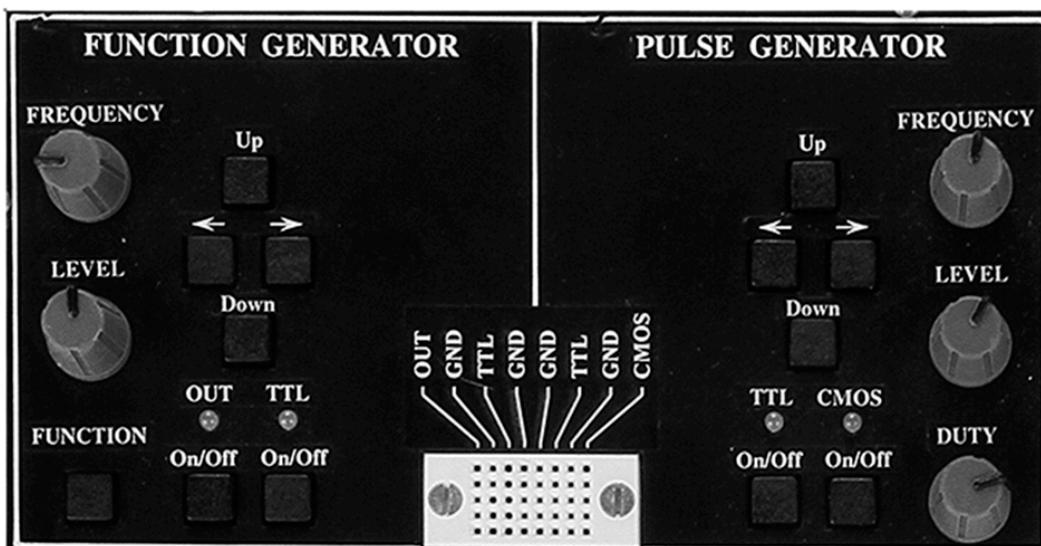

Figure 2
Figure 2 shows the Function Generator and Pulse Generator controls on the front panel of the trainer.
*Figure 2* shows the Pulse Generator controls on the front panel of the trainer.